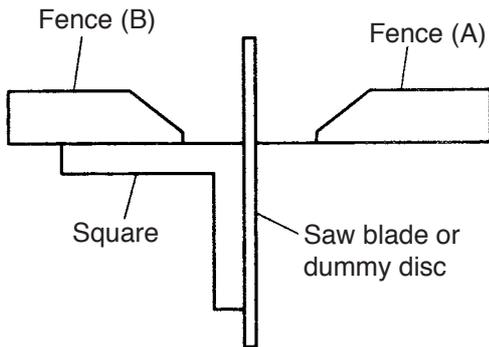

Fig. 36
After disassembly or replacement of the Base Ass'y [67], Turn Table [36], Fence (A) [65], Fence (B) [54] or Hinge [16], it is necessary to perform adjustment to ensure that the fences are positioned at precise right angles with relation to the saw blade (or dummy disc). Align fence (B) with the saw blade (or dummy disc), and adjust them as necessary to ensure squareness (tolerance: 0.4/100 mm). As shown in Fig. 36, use a square to set fence (B) square to the saw blade. Next, use a straight edge to adjust fence (A) so that it is exactly aligned with fence (B). Finally, use the square to confirm squareness of fence (A) with the saw blade (tolerance: 0.4/100 mm).